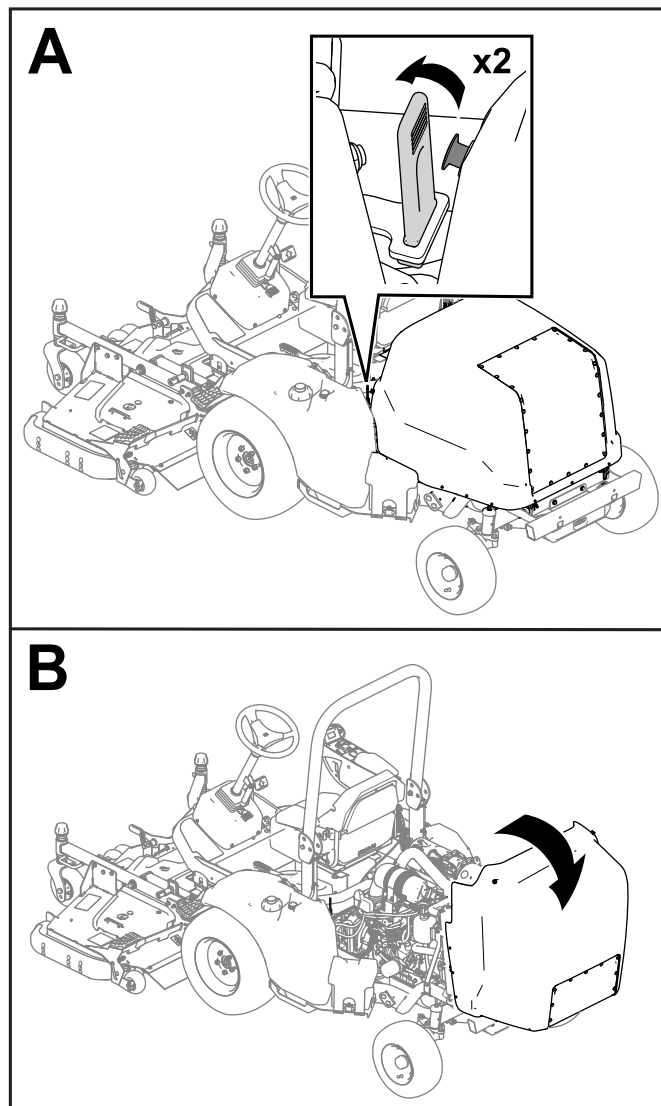

Figure 44
1. Release the straps from each side of the machine (Figure 44).
2. Raise the hood (Figure 44).